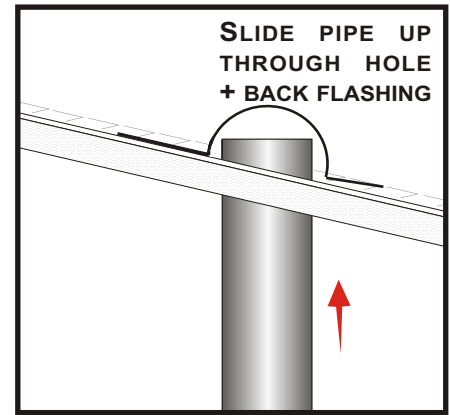
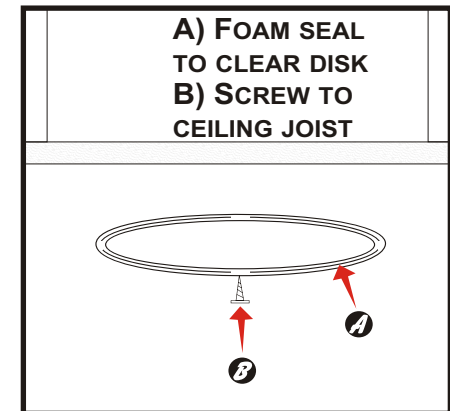

Figure 8
Figure 10
**8.** Now you are ready to install the pipe. Slide the pipe through the hole in the ceiling (crimped end down), pushing it up through the ceiling and past the flashing, at least  $\frac{1}{2}$  inch (Fig.8). The pipe must extend at least  $\frac{1}{2}$  inch above the rubber flashing. It may be necessary to trim the pipe to get it flush with the ceiling. If so mark around the pipe with a pencil at the ceiling (Fig 9A) and mark on the ceiling where the seam is located. This will help to keep the pipe lined up. Now pull the pipe down a little (you may need two pair of pliers to do this) 2 to 3 inches will be enough. (You can take the pipe all the way out if this is easier.) Cut around the pipe on your pencil mark with a pair of tin snips. Push the pipe up flush with the ceiling. Be careful! After cutting the pipe with tin snips it has very sharp edges. With the pipe in place secure the pipe to your ceiling joist with one truss head screw (Fig. 9B). Remove the protective film. Remove the paper back from the metal tape, tearing off pieces about 3 inches long and placing them about  $1\frac{1}{2}$  inch in the pipe and taping the pipe to the ceiling, overlapping the tape, making sure the crack between the ceiling and the pipe is completely covered. Remove the protective film from clear plastic disk. Place the clear plastic disk over the end of the pipe as close to the center as possible, make sure one of the holes is lined up under the ceiling joist. Mark the other 3 holes; install the screw anchors in the drywall. Remove the paper back from the white foam seal and place it on the clear plastic disk about  $\frac{1}{4}$ " from edge of disk and over the screw holes (Fig.10).